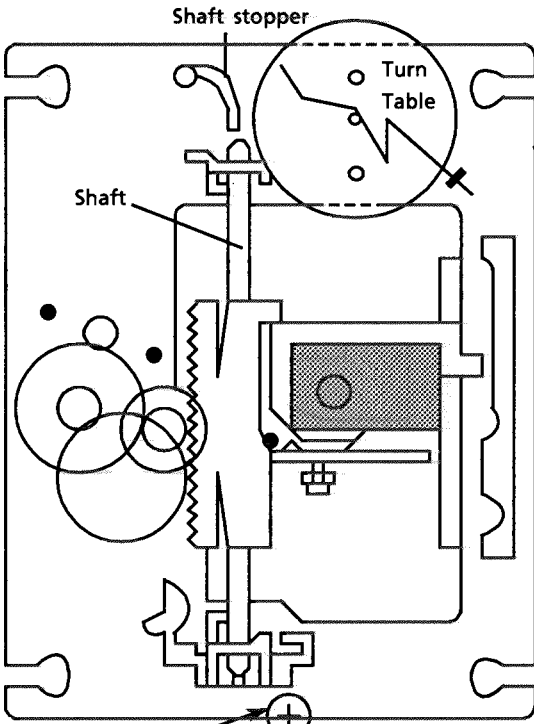

Fig 17 CD mechanism assembly
2. Release the shaft to remove the pickup (Fig 17).